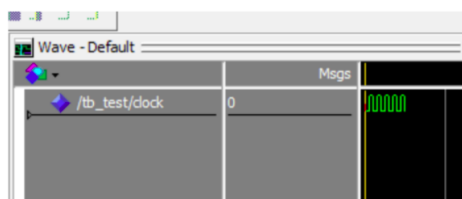

Figure 1.7: Modelsim output example
- Figure 1.7 reports what you should see after a few seconds.